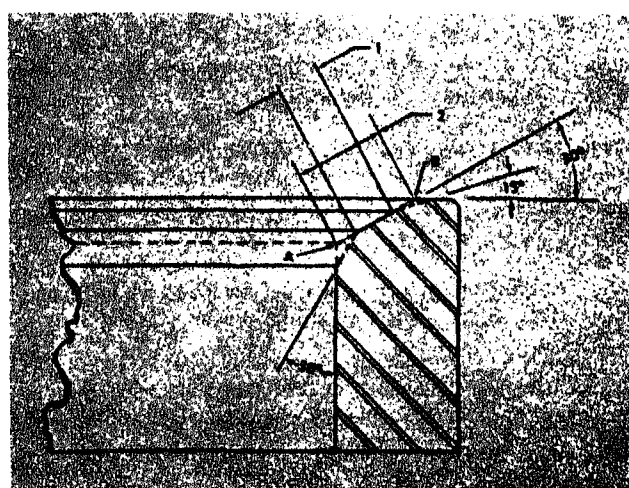

Fig. 2-3-4. Valve seat insert cross-section
5. Check valve seat width which should be $\frac{1}{16}$ to $\frac{1}{8}$ in. [1.5875/3.1750 mm]. See Fig. 2-3-4.